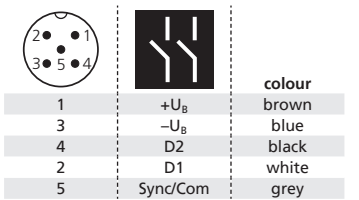

Fig. 1: Pin assignment with view onto sensor plug and colour coding of the microsonic connection cable
- Plug in the connector cable to the M12 connector, see Fig. 1.